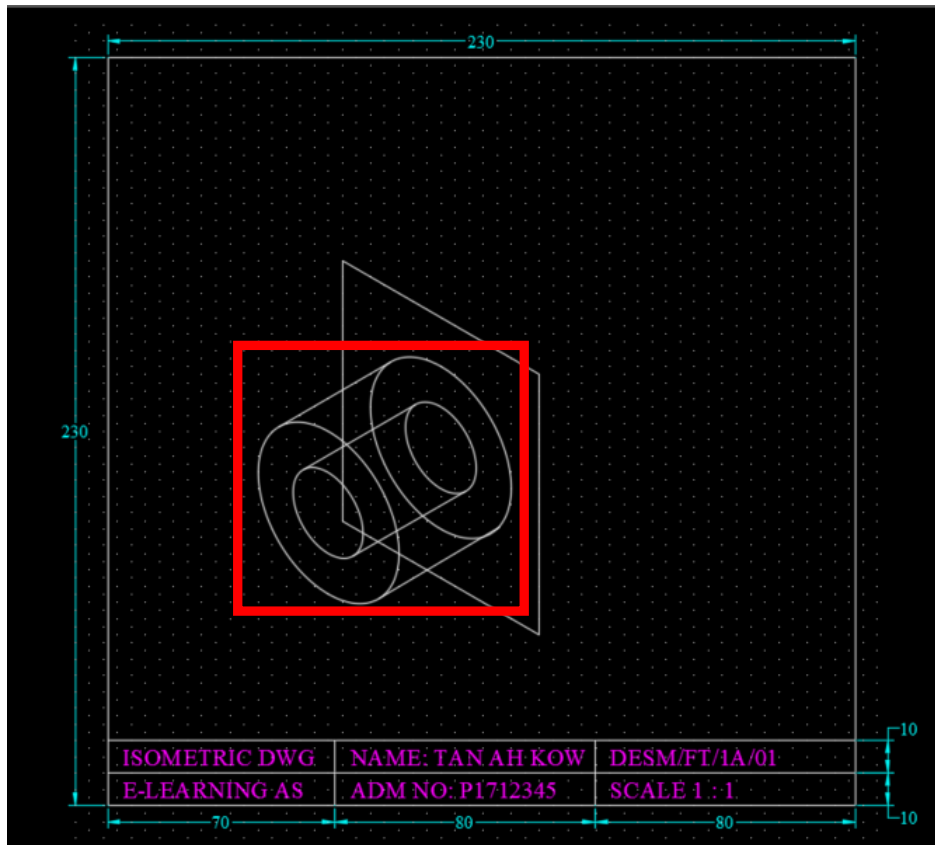

FIG 8
9. Remove the construction line (diagonal line). Join the 2 sets of isometric circles using lines. (Hint: from Quadrant of one ellipse to quadrant of the next ellipse, total 4 lines). (FIG 8).